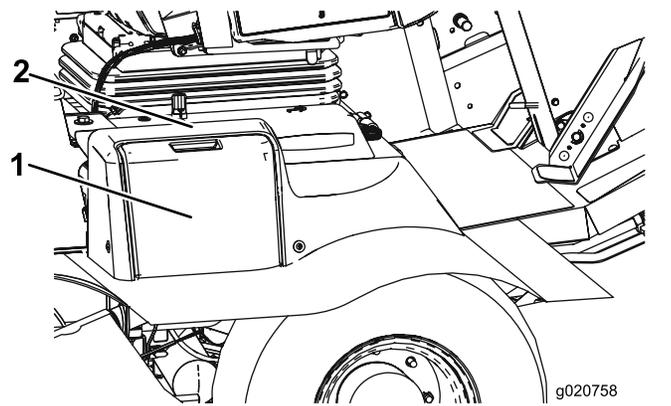

Figure 61
1. Open the battery cover on the side of the shroud (Figure 61).
**Note:** Press down on the flat surface above the battery cover to ease the removal of the cover (Figure 61).